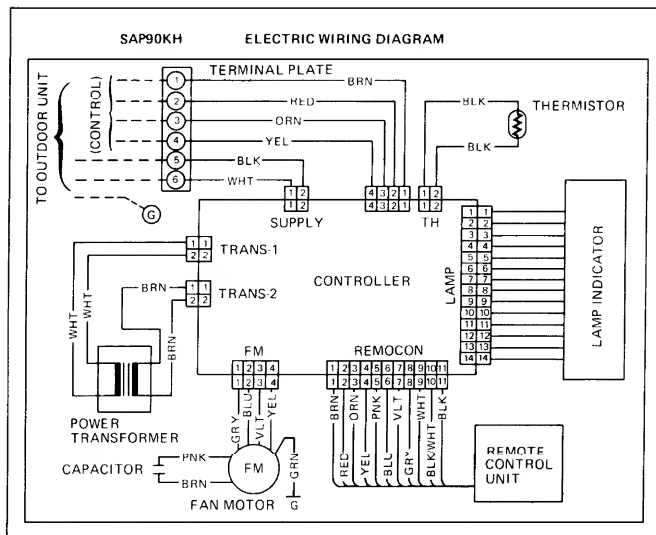

Fig. E-12H
2. Set the resistance measuring range of multimeter to "X1Ω" and measure the resistance of the lead wires between WHT - WHT and BRN - BRN as shown in Fig. E-12H.